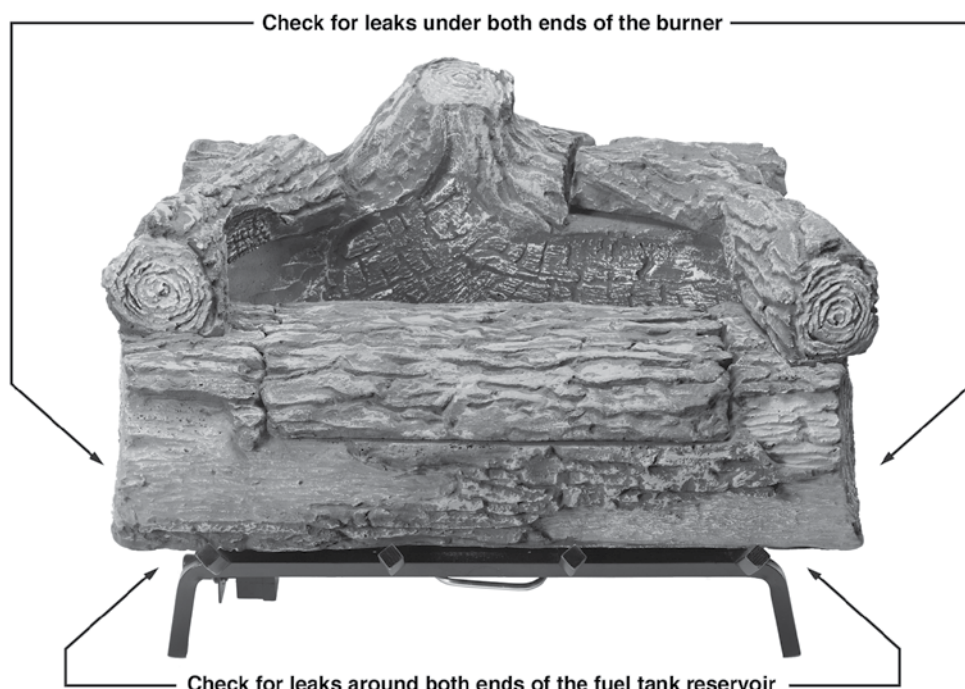

Figure 14
8. Check for leaks by installing a fuel canister into the appliance and letting it sit for five minutes. Check for leaks in the areas shown in Figure 14 before igniting the fuel.